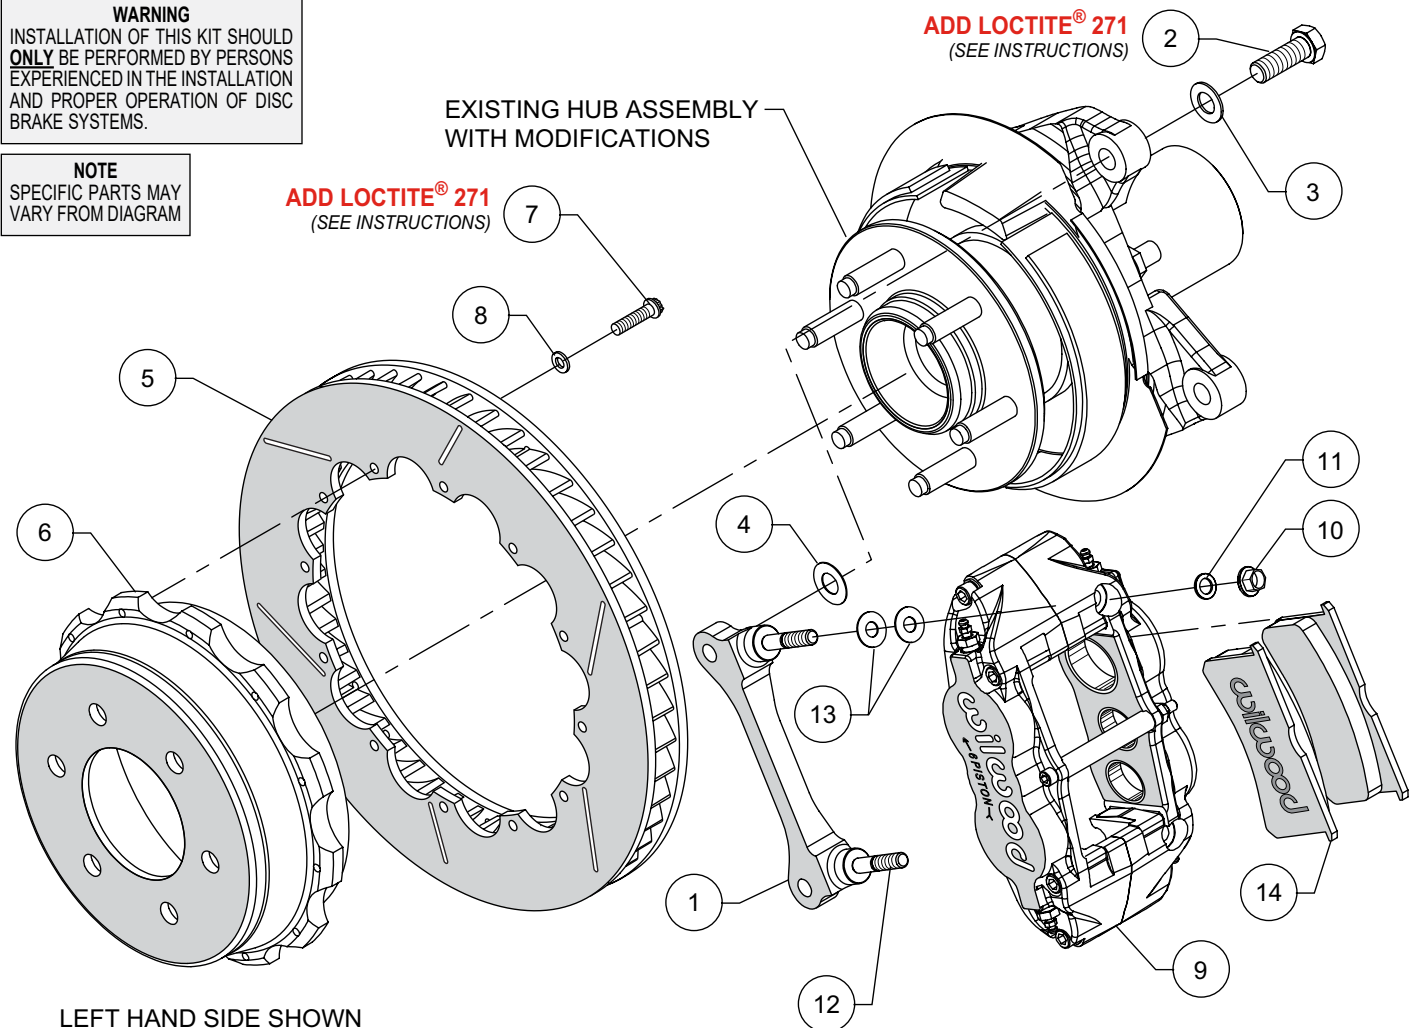
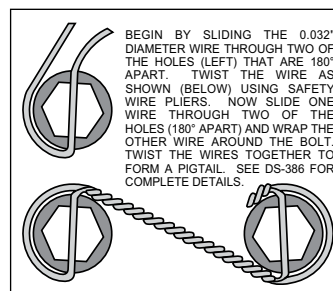

Figure 1. Typical Installation Configuration
Figure 4. Safety Wire Diagram
Assembly Instructions (numbers in parenthesis refer to the parts list and Figure 1 on the preceding pages):
•The caliper mount bracket (1) should initially be installed with clean, dry threads on the mounting bolts. Orient the bracket as shown in Figure 1 and Photo 1, and install using bolts (2) and washers (3). Initially place one .029 thick shim (4) on each bolt between the bracket and upright, Figure 1. Temporarily tighten the mounting bolts. **NOTE:** The bracket must fit squarely against the mount bosses on the upright. Inspect for interference from casting irregularities, machining ridges, burrs, etc. Later, after the caliper alignment has been checked, the mount bolts will be secured using red *Loctite*® 271.
•Orient the rotor (5) and the hat (6) as shown in Figure 1 and Photo 2. Attach rotor to hat using bolts (7) and washers (8). Apply red *Loctite*® 271 to the bolt threads and torque to 140 **in-lb** using a criss-cross pattern. The bolts must be safety wired using standard 0.032 inch diameter stainless steel safety wire as shown in Figure 4. Please refer to Wilwood's data sheet DS-386 (available at www.wilwood.com/Pdf/DataSheets/ds386.pdf) for complete safety wire installation instructions.
•**NOTE:** This kit contains distinct right and left hand calipers that must be mounted in a specific direction, as described below. Initially place two .035" thick shims (13) on each stud (12) as shown in Figure 1 and Photo 3. Mount the caliper (9) onto the bracket (1) using lock nuts (10) and washers (11), Figure 1. Ensure that the caliper is mounted so that the largest pistons are at the rotor exit end of the caliper, in relation to the direction of rotor rotation. Temporarily tighten the lock nuts and view the rotor through the top opening of the caliper. The rotor should be centered in the caliper, Photo 4. If not, adjust by adding or subtracting shims (4) between the bracket and the upright. Always use the same amount of shims on each of the two mounting bolts. Once the caliper alignment is correct, remove the bracket mounting bolts (2) one at a time, apply red *Loctite*® 271 to the threads, and torque to 77 ft-lb.